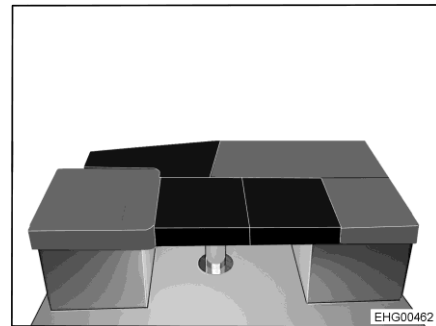

Fig. 163 After conversion
- Place 2 square additional cushions on the table (see Fig. 163).
- Place triangular additional cushion on the bed widening between lateral seat and L-shaped bench (see Fig. 163).